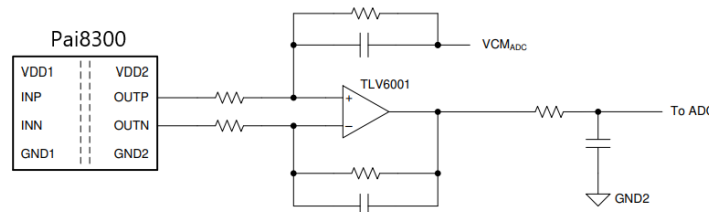

Fig26. Connecting the Pai8300 Output to a Single-Ended Input ADC
- The voltage drop caused by the maximum allowed overcurrent must not exceed the input voltage that causes a clipping output: $V_{SHUNT} \leq V_{Clipping}$. For system using single-ended input ADC, Figure 26 shows an example of a TLV6001-based signal conversion and filter circuit as used for recommended example. Tailor the bandwidth of this filter stage to the bandwidth requirement of the system and use NPO-type capacitors for best performance.